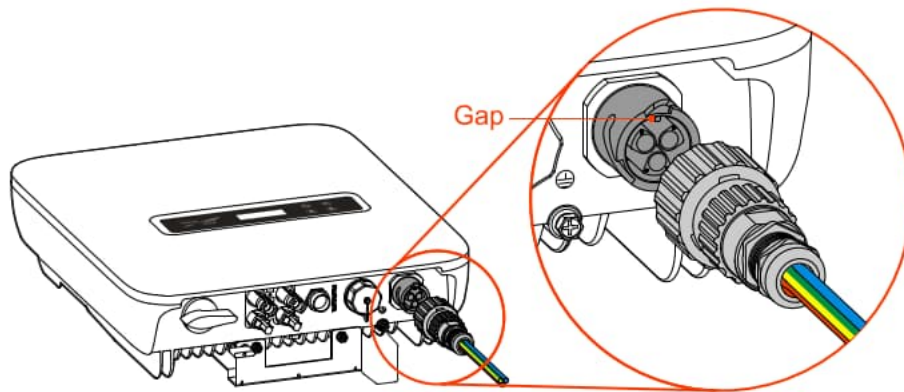

Figure3-23 Insert the AC connector
Step 3 Insert the AC connector to the GRID port (as shown in Figure3-23) and lock it.